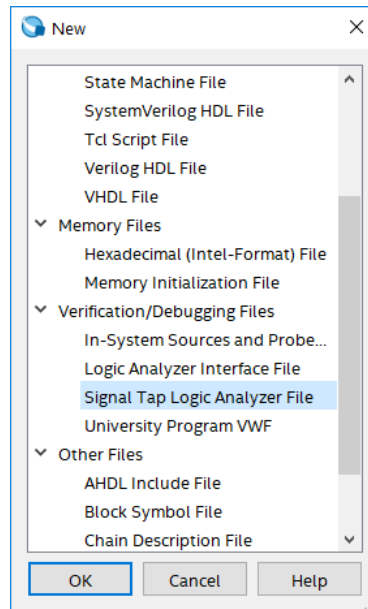

Figure 2. Need to prepare a new file.
1. Open the SignalTap window by selecting File > New, which gives the window shown in Figure 2. Choose SignalTap Logic Analyzer File and click OK.